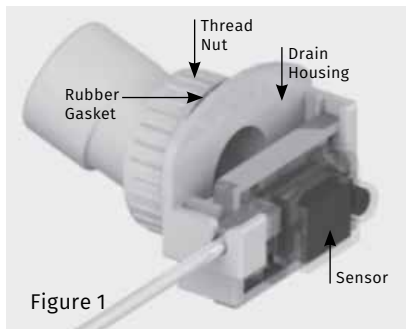

Figure 1
1. Remove the threaded nut from the drain adapter (sold separately). (Figure 1)